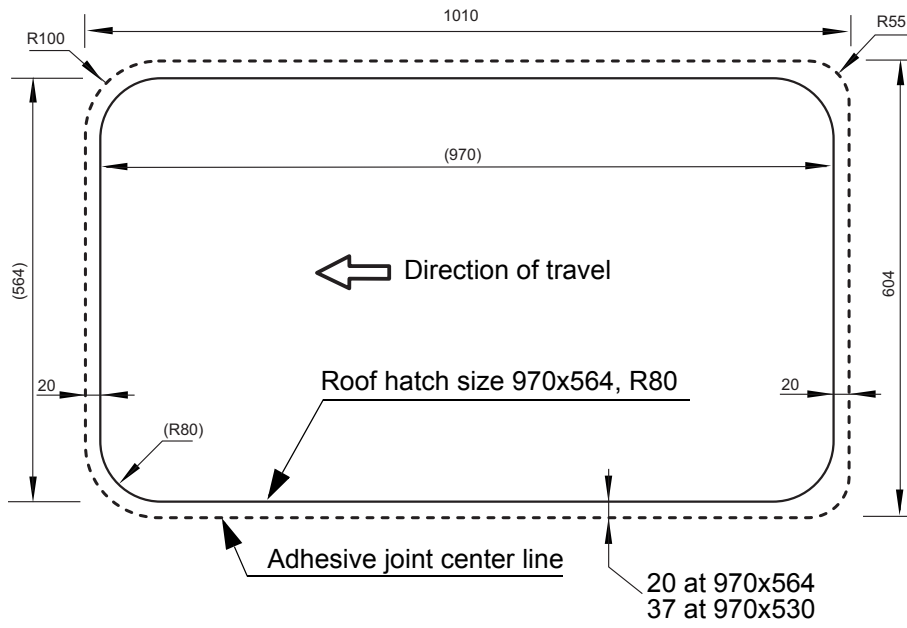

Fig. 4.6
- Roughen bonding area of baseplate and roof surface according to the adhesive joint (Ref. Fig. 4.6 and Fig. 4.10), clean with Sika Cleaner, and preprocess with Sika Primer (follow product information).